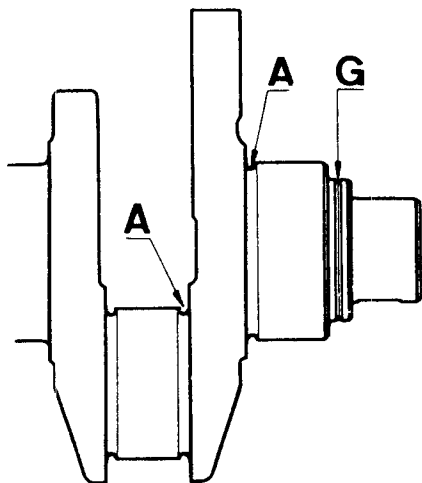

FIG.1.40 CRANKSHAFT IDENTIFICATION DRAWING (TYPE 821 ENGINE)
- 2 There are certain differences in hardening between the various engine type crankshafts and it is imperative that the proposed regrinding matches the figures given in Specifications. Figs.1.40 and 1.41 show points of identification for type 821 engines and 697/307 types.